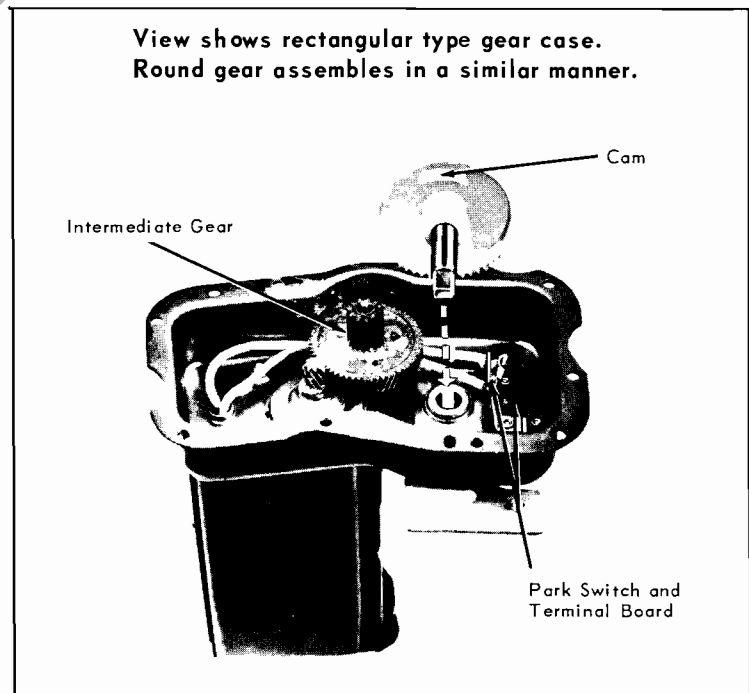
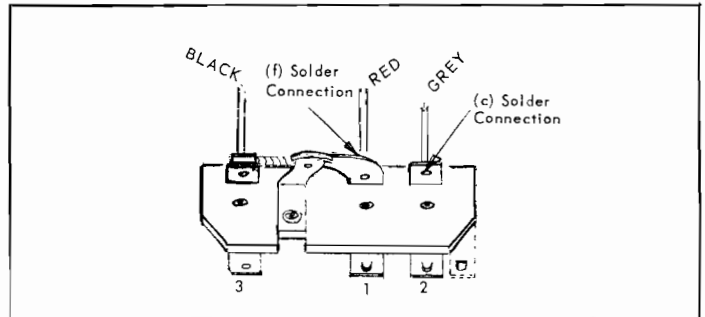

FIGURE 17
FIGURE 18
1. If park switch and terminal board assembly was removed, re-install replacement assembly using the attaching screws and nuts included in the service package. Resolder leads to terminals. (Refer to Fig. 17 for single speed models; Fig. 18 for 2 speed.
2. Install wave washer and intermediate gear on immediate gear shaft. (Figure 17)
3. Install output gear and shaft assembly with cam in position shown in Fig. 17.